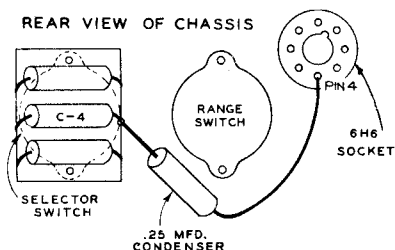

Figure 3—AC Voltage Calibrations
2. Before the A-C section of the meter can be calibrated, it will be necessary to connect a .25 mfd. capacitor between the cathode (pin 4) of the 6H6 tube and the junction of the range switch (S1-C) arm and capacitor C-4. Capacitor C-4 is the middle capacitor of the three located on the rear of the selector switch. See Figure 3.